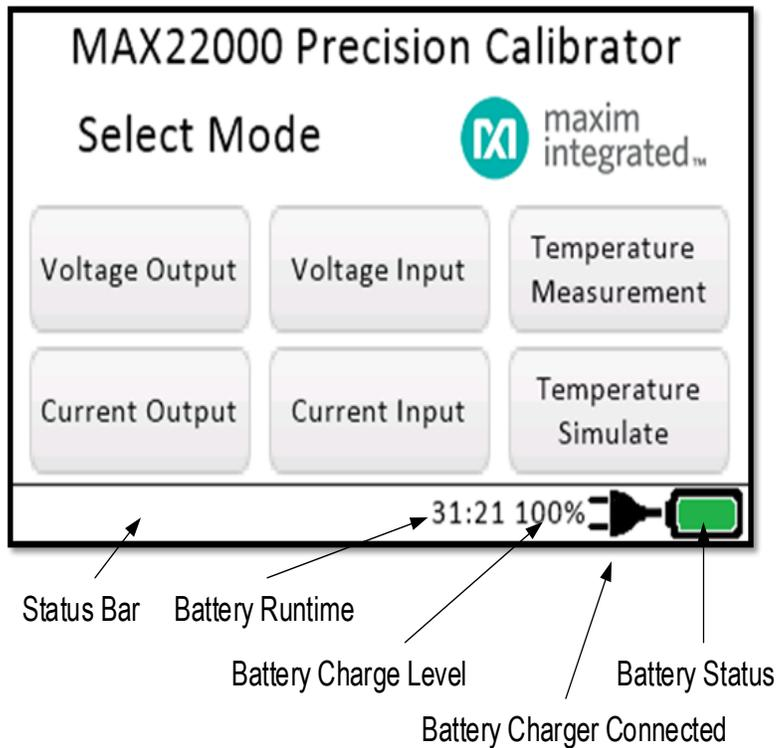

Figure 4. MAXREFDES183# bottom view.
5. Push the power-on button (1 to 2 seconds to wake the device up). The display should then show a screen like **Figure 4**.